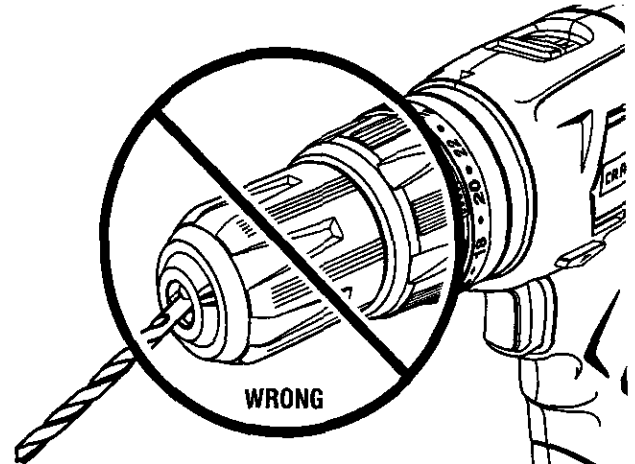

Fig. 11
**⚠ WARNING:** Do not insert drill bit into chuck jaws and tighten as shown in figure 11. This could cause drill bit to be thrown from drill resulting in possible serious personal injury or damage to the chuck.